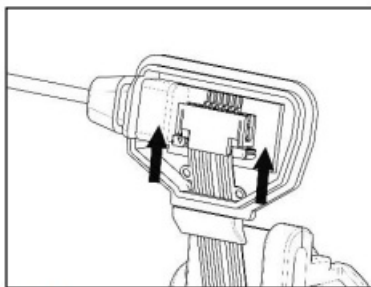

Fig. 7
7. Lower the two black hooks to allow proper fixing of the keypad flex (Fig. 7).